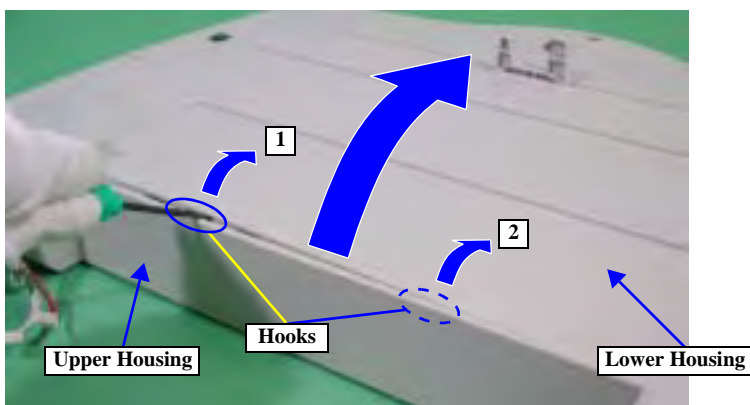

Figure 4-11. Upper Housing Removal 2
3. Follow the order shown in Figure 4-11 and use a common screwdriver to release hooks securing the Upper Housing and Lower Housing in 2 places.